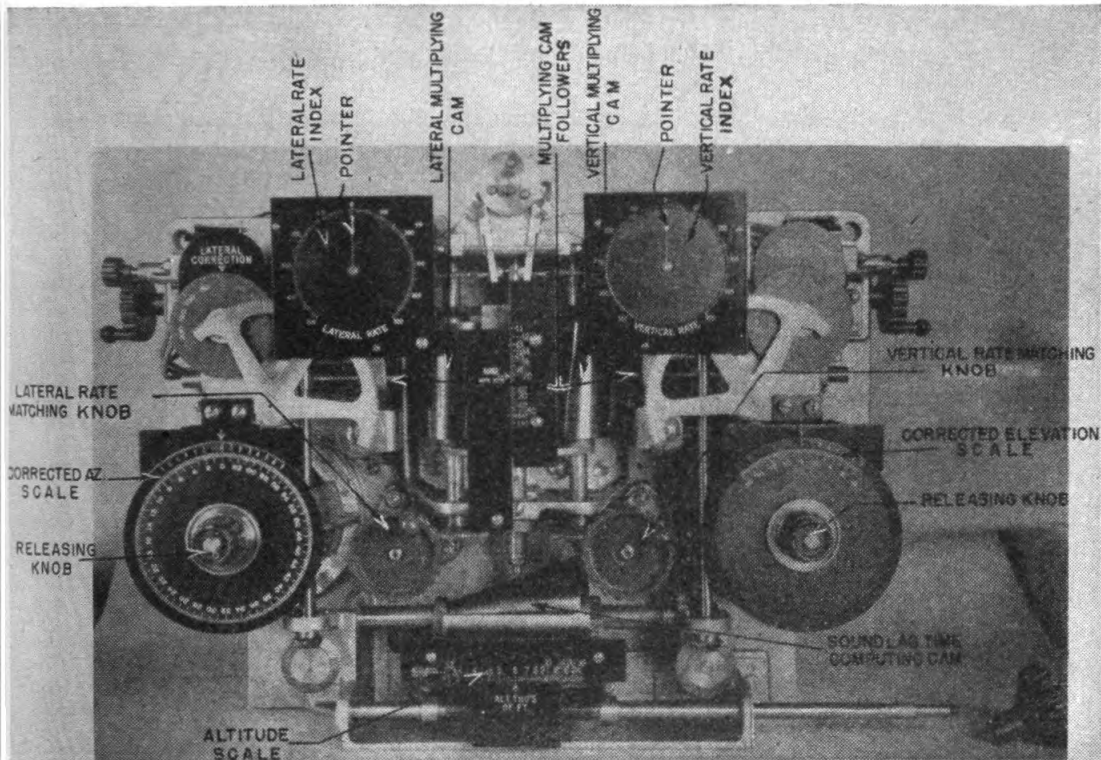

FIGURE 101.—Acoustic corrector M2.
Q. Give the nomenclature of the M2 acoustic corrector. *A.* See figure 101.